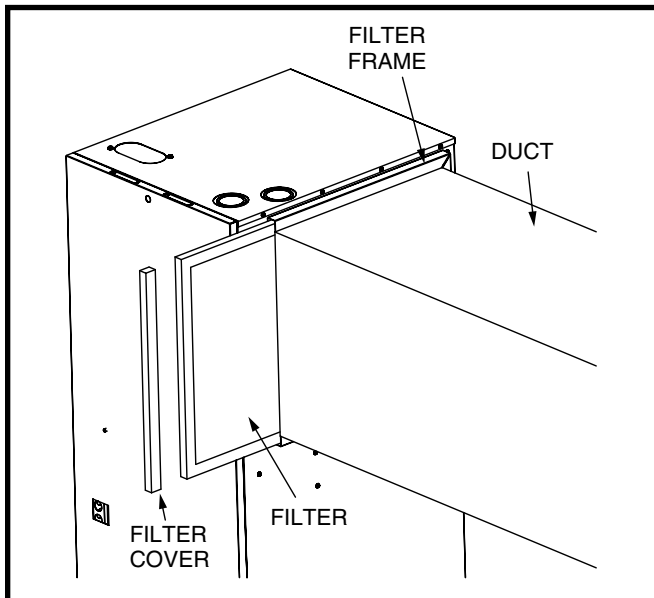

Figure 1. Filter Frame Installation
3. Peel off the sound insulation from the blower compartment sidewall where the side return air filter will be installed. See Figure 1.